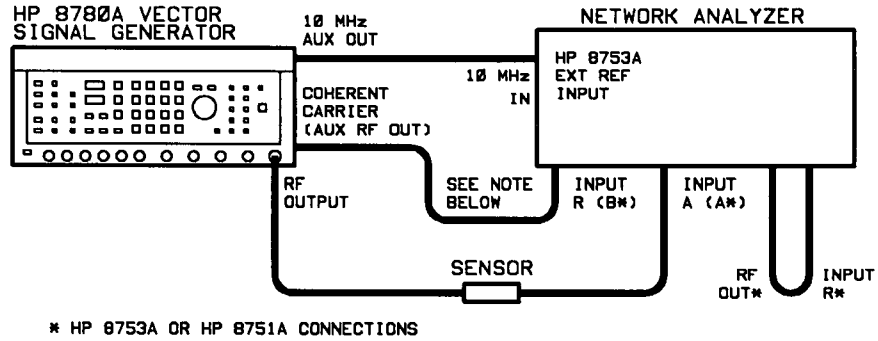

Figure 4-12. Digital Modulation Accuracy Test Setup
1. Connect the equipment as shown in Figure 4-12. The Generator 10 MHz auxiliary output must be connected to the network analyzer to provide a common timebase for the measurements.